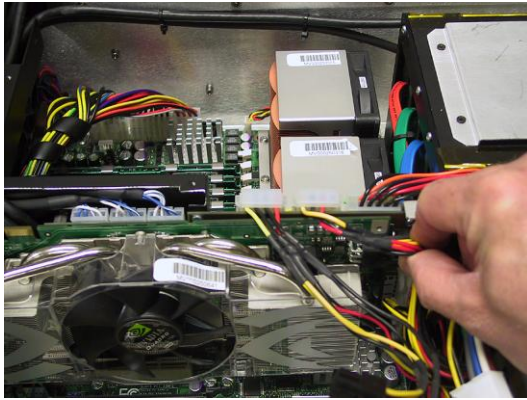

Figure 4-53
- 4) Some PCI Express cards may have an auxiliary power connector. If so, disconnect it as shown in Figure 4-53. **NOTE: The auxiliary power for the main video card will always be connected directly to the power supply.**